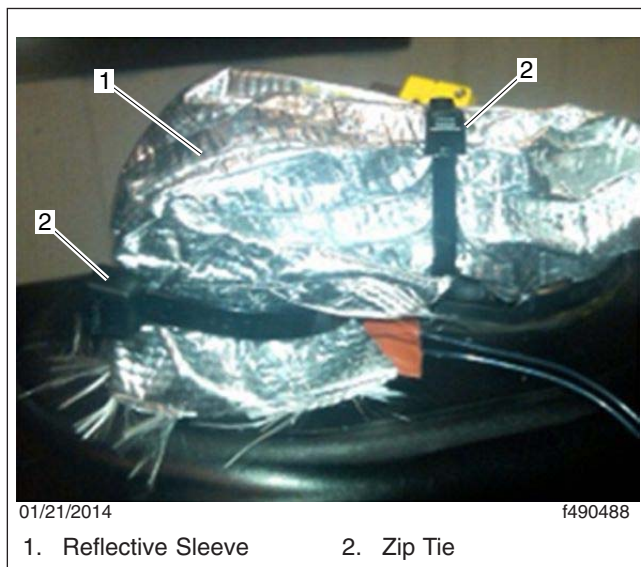

Fig. 4, Installing the Reflective Sleeve
11. Position the reflective sleeve over the fitting and insulation; secure it with zip ties as needed. See Fig. 4.